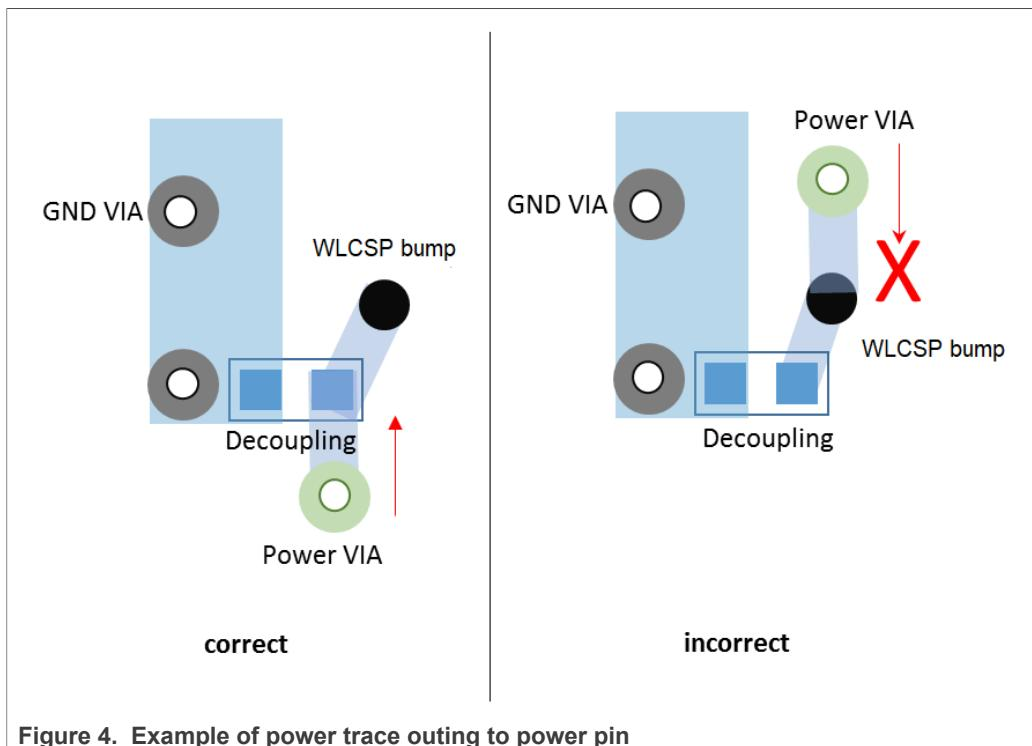

Figure 4. Example of power trace outing to power pin
- The power from source to the power pin should go through the decoupling network before connecting to the power pin. As shown in Figure 4